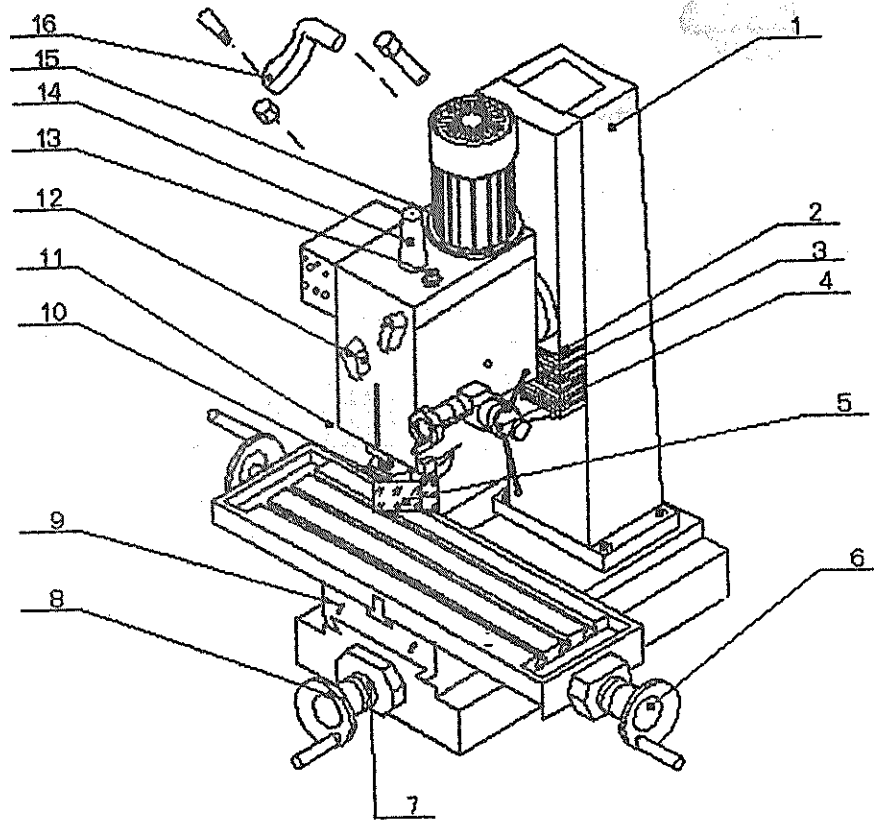

Fig.1
2. USE AND FEATURES (See Fig. 1)
10.1 USE OF MAIN MACHINE PARTS (see Fig. 1)